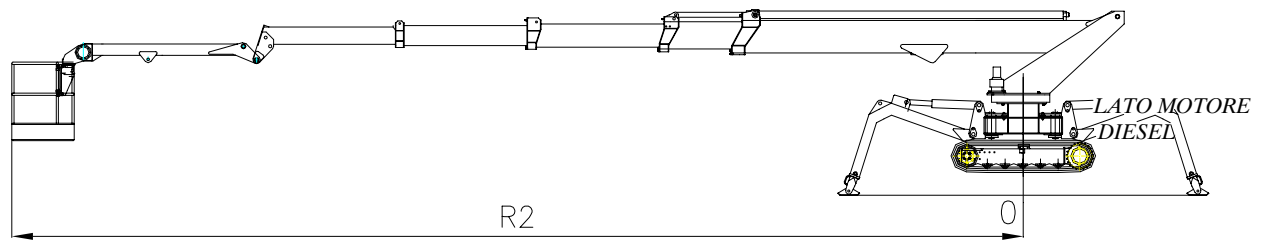

Fig. 6.9
- now check the distance from the slewing rotation centre to the edge of the cage (R2 of Fig. 6.9) is like the comparative value showed in the following table “max outreach for Ragni” with a max tolerance of 300 mm